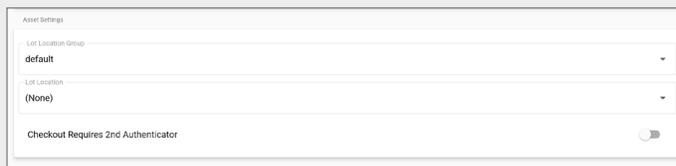

Fig. 69 – Create Asset screen – Asset Settings
5. Fill in the **Asset Settings**, as shown in Fig. 69.